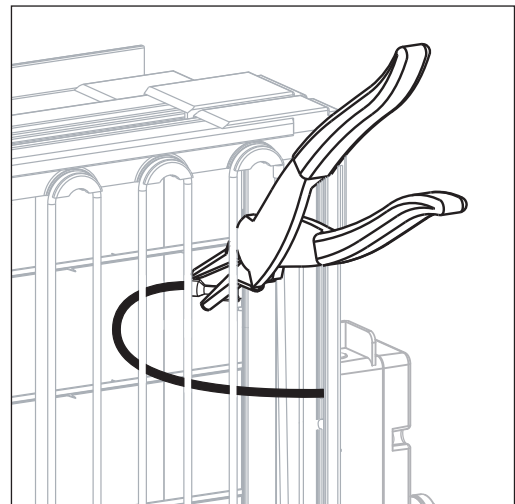

Fig. 12
- 5: Crimp the new $\frac{1}{4}$ " quick disconnect terminal onto the red replacement power supply wire and connect to the ionization array (Fig. 12). This may require the use of needle-nose pliers.